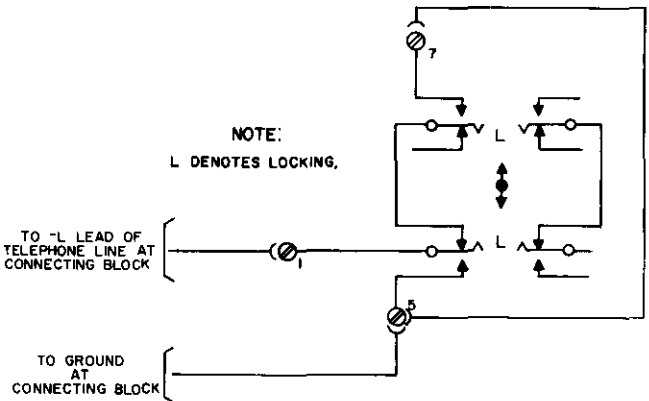

Figure 7. Customer Transfer Service.
4.10 Connect the key as follows, to control customer transfer service (Figure 7):